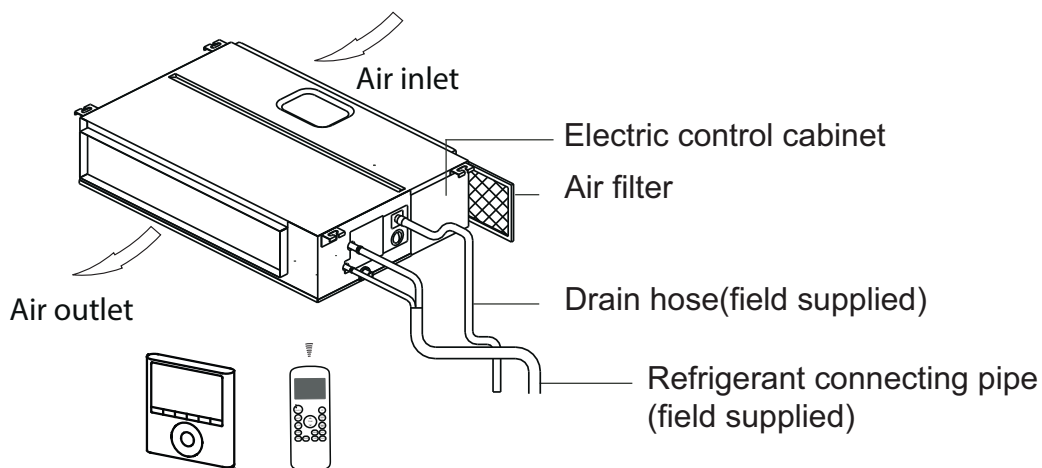

Fig. 3 — Parts List
- Fig. 3 is only a sketch. Different models may differ slightly.